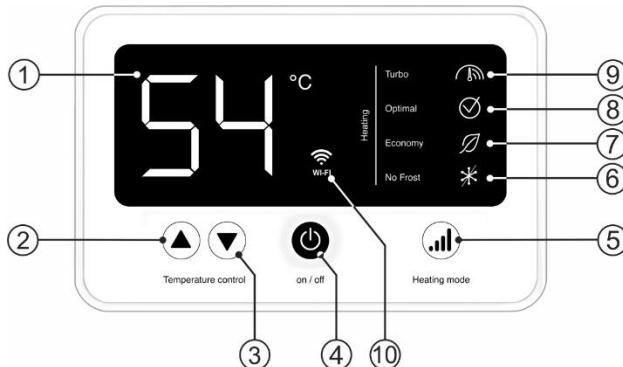

Figure 2. Electronic control board
Figure 2: 1 – LCD display, 2 – button «▲» Temperature control / increasing the heating temperature, 3 – button «▼» Temperature control / decreasing the heating temperature, 4 – button «on/off» / switch on/switch off, 5 – button «Heating mode» / setting the heating power, 6 – “No Frost” mode indication, 7 – indication «Economy» / minimum power, 8 – indication «Optimal» / conventional power, 9 – indication «Turbo» / maximum power, 10 – Wi-Fi feature.
Switching on/swinging off of the EWH is performed by pressing the central button «on/off» (Figure 2, p. 4), while the display shows the preselected heating temperature. After 2.5 seconds, the display shows the current water temperature in the EWH. Selection of the heating power is performed by pressing the button «Heating mode» (Figure 2, p. 5), on the control panel. Mode 2 kW is accompanied by the indication of a control lamp «Turbo» (Figure 2, p. 9), 1,3 kW is accompanied by the indication of a control lamp «Optimal» (Figure 2, p. 8), and 0,7 kW is accompanied by the indication of a control lamp «Economy» (Figure 2, p. 7). Antifreeze mode is accompanied by the indication of a control lamp «No Frost» (Figure 2, p.6).
During the operation of the EWH, the user can adjust the temperature of the water heating using two buttons «▲»«▼» Temperature control (Figure 2, p. 2 and p. 3).
2. On water heater panel press and hold buttons 2 and 3 together (Fig. 2). Appears Wi-Fi indication (Fig. 2, p. 10).